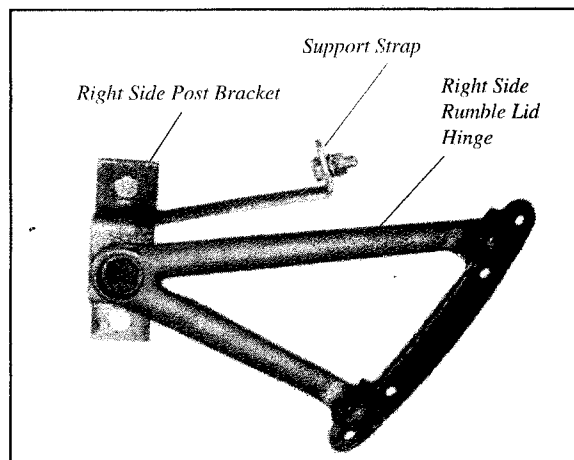

Figure 4-213 - Assembled Bracket and Hinge (Right Side)
15. Bolt the Right Side Post Bracket to the right side support post using two 5/16-18 bolts, lock washers, and nuts. The attached support strap on the post bracket should be on the top side with the rear lip facing up (Figure 4-213 and 4-214).